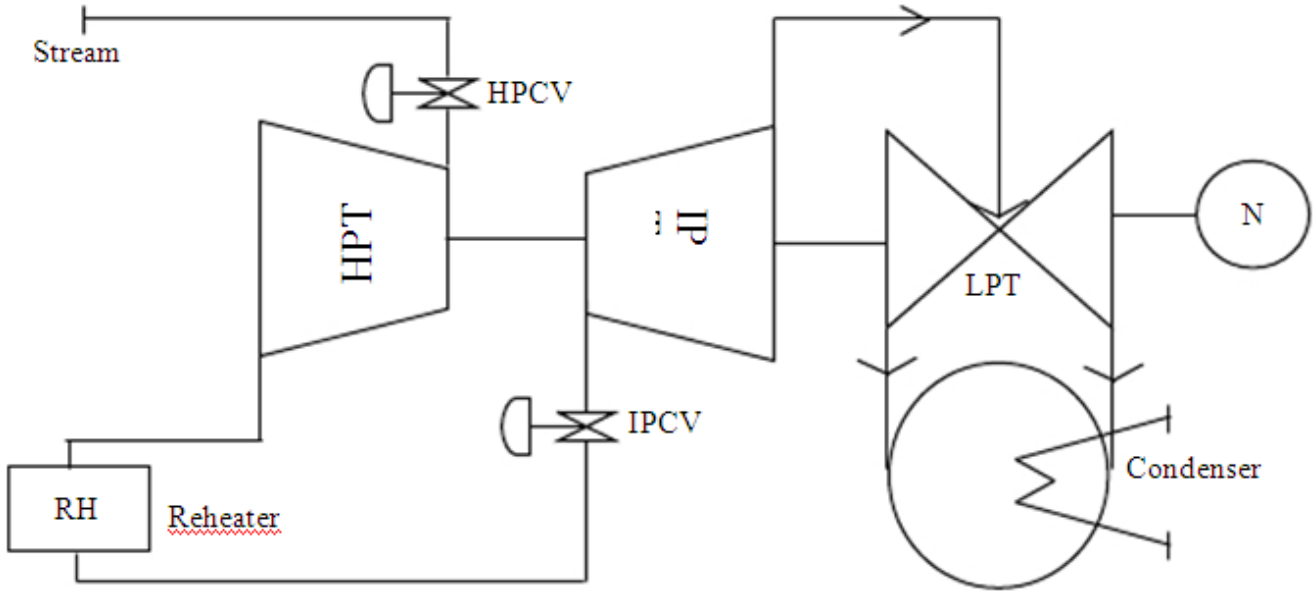

Fig 9 STREAM TURBINE SCHEME WITH HP AND LP PARTS
In large steam turbines steam after re heater enters intermediate pressure (IP) turbine through another set of stop valves (called interceptor valves) and control valves, as shown in Fig. 9.